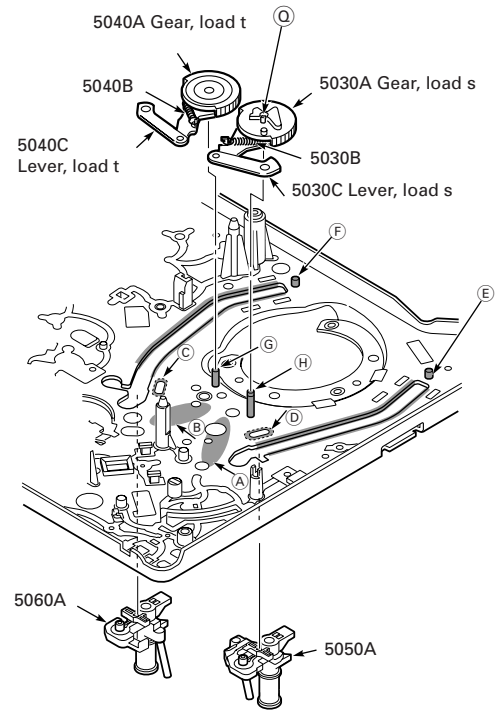

Fig. 8.25
- Disengage the clamp ① and remove the load gear of the threading roller unit (5030A) and the detached load spring (5030B, Fig. 8.25). When disassembling these components, take care that the load spring (Pos. 5030B) does not jump off.
- Remove the load gear of the threading roller unit (5040A) and the detached load spring (5040B, Fig. 8.25). When disassembling these components take care that the load spring (5040B) does not jump off.
- Always use the grease with part number **75988 061 7800** for lubrication of the roller units and follow the lubrication instructions ① ... ④ and the shaded parts given in Fig. 8.25 and Fig. 8.28!